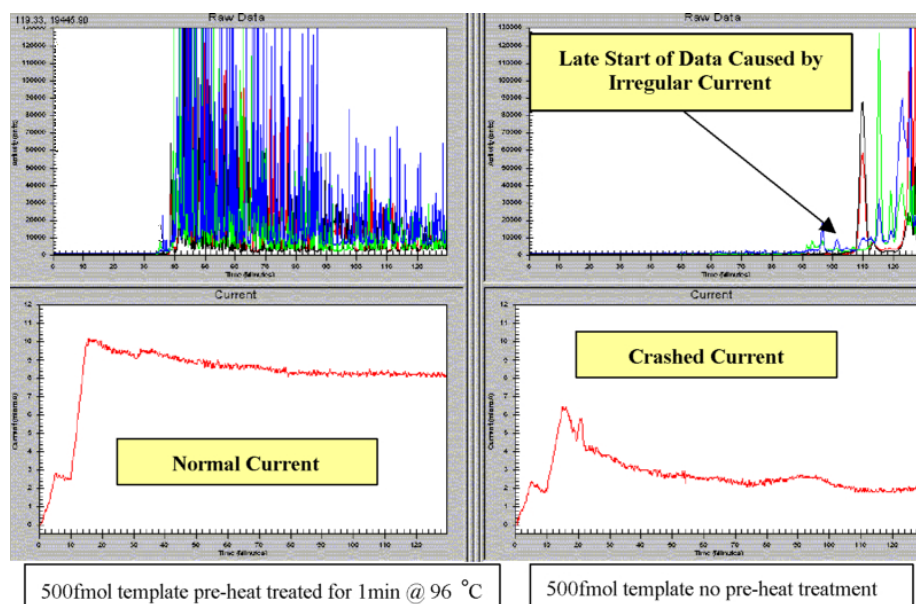

Figure 6: Preheat treatment of plasmid templates
2. Use of the preheat treatment of the template DNA prior to the cycle sequencing reaction is highly recommended for supercoiled plasmid samples and is required to solve erratic current problems or current crashes. Once again, the preheat treatment (see CEQ DTCS Chemistry, Beckman Coulter, Inc. P/N 718119) nicks the template DNA to alleviate the supercoiling of the plasmid DNA and nicked DNA does not “clog” the capillaries during injection. In many cases the preheat treatment of plasmid templates at 96°C for 1 minute prior to adding the template to the sequencing reaction can eliminate current irregularities (see Figure 6).